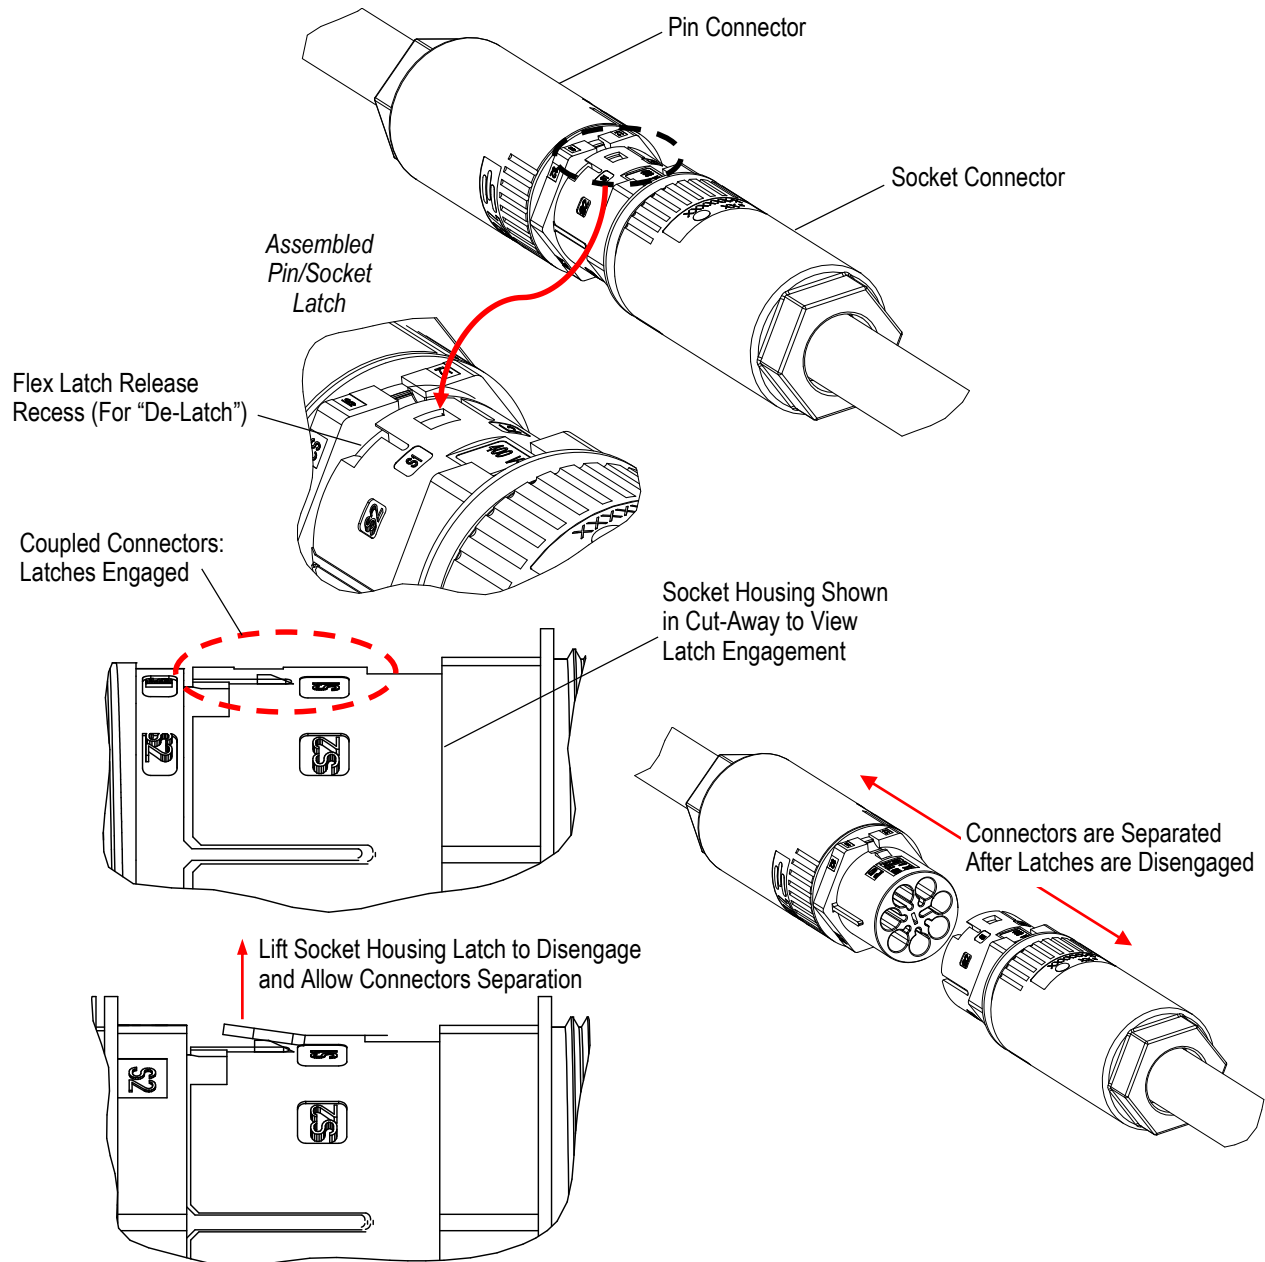

Figure 27
The NECTOR 5/6/7-circuit socket housing has recesses adjacent to the flex latches to provide access to the latches for de-coupling. The flex latches must be raised to disengage the protruding latch on pin housing and allow the connectors to separate. This is shown in Figure 27.
1. Locate release recesses adjacent to flex latches on socket housing shell, as shown in Figure 27.